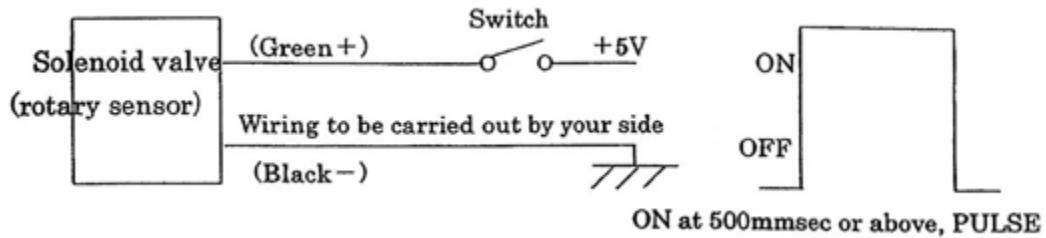

Fig. 2
- e) When you use a solenoid valve kit, connect the drive circuit to the solenoid valve. (Fig. 2)